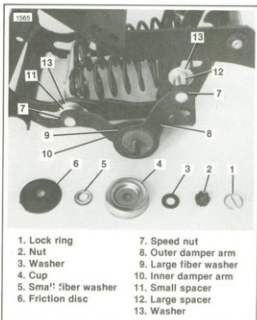
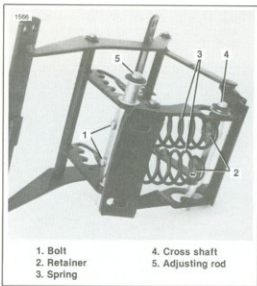
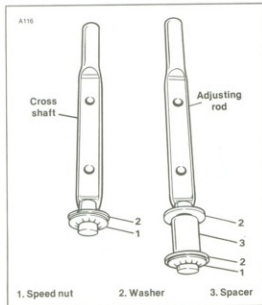

Figure 2-106. Friction Damper — 1978½ - 1980
Figure 2-107. Spring Assembly
Figure 2-108. Cross Shaft and Adjusting Rod
- See Figure 2-106. Remove the lock ring (1), nut (2), washer (3), cup (4), fiber washer (5) and friction disc (6).
- Pry off the two speed nuts (7), outer damper arm (8) and large fiber washer (9). Remove the inner damper arm (10), small spacer (11), large spacer (12) and washers (13).
- See Figure 2-107. Remove the bolts (1) and retainers (2) from each spring end.
- Remove the cross shaft (4) and adjusting rod (5).
- See Figure 2-108. Remove the speed nuts (1), washers (2) and spacer (3) from the cross shaft and adjusting rod only if they are damaged and have to be replaced. Reassemble as shown.
- See Figure 2-108. Reassemble the frame members as shown if disassembled.
- See Figure 2-107. Insert the cross shaft through the right side of front slots with the step facing towards the springs. Fasten the shaft to the springs using the other two retainers and bolts. Tighten bolts securely.
- See Figure 2-106. Place a washer (13) on the cross shaft and on the adjusting rod. Insert the small spacer (11) on the cross shaft and the large spacer (12) on the adjusting rod.